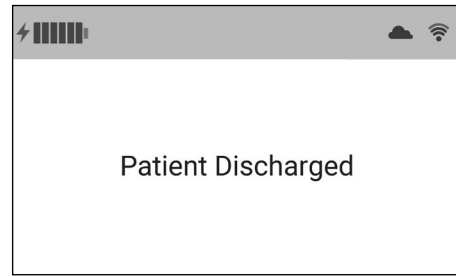

Figure 14. Patient discharge screen
3. A Patient Discharged screen will appear for several seconds. (Fig. 14)
4. The controller will turn off following patient discharge, three (3) minutes after both the support surface is disconnected and the controller is unplugged from power.